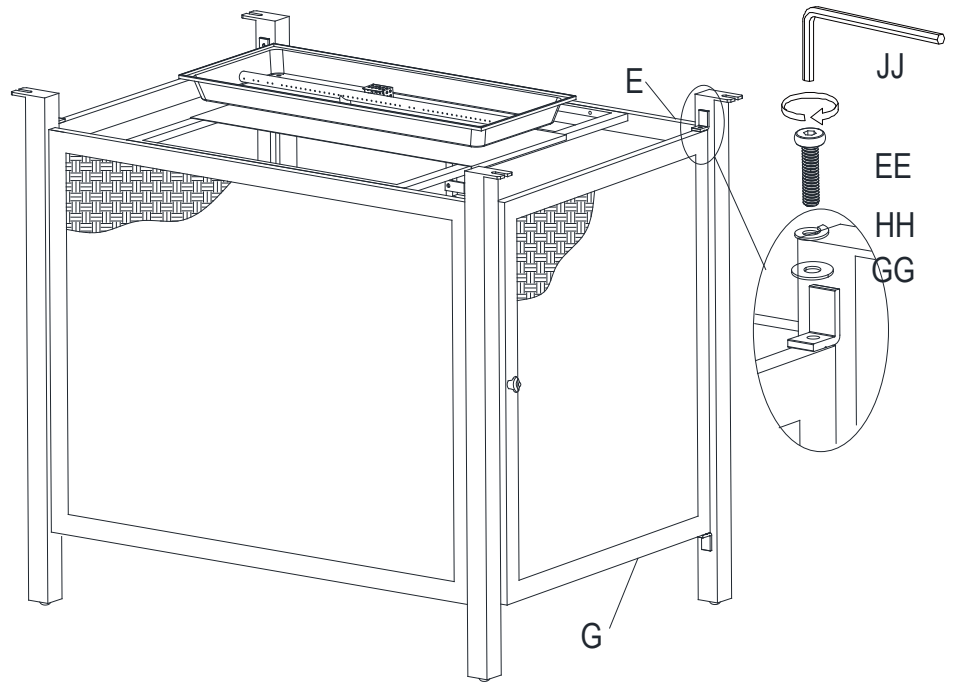

Figure 6
7. Loosely attach Door (G) to the Right Side Panel (E) by bolts (EE) through lock washers (HH), flat washers (GG), using Allen wrench (JJ). See figure 6.
8. Once all the bolts are in place. Securely tighten all the bolts (EE&FF) with Allen wrench (JJ). Base fully assembled.